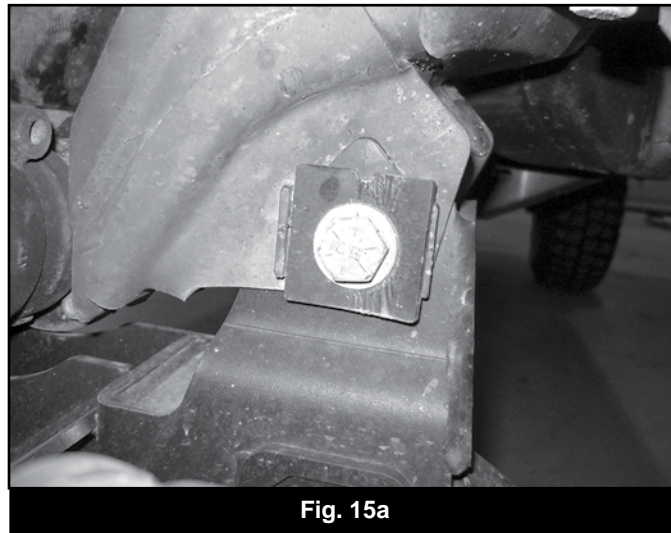

Fig. 15a
25. Install the rear cross member with new 9/16" bolts, with washers and cam plates. There is a recessed area in the cam plate. Install the cam plate with the recessed notch above one of the crossmember bolts. (Fig 15a) The cam plates are installed only on the front side of the crossmember.